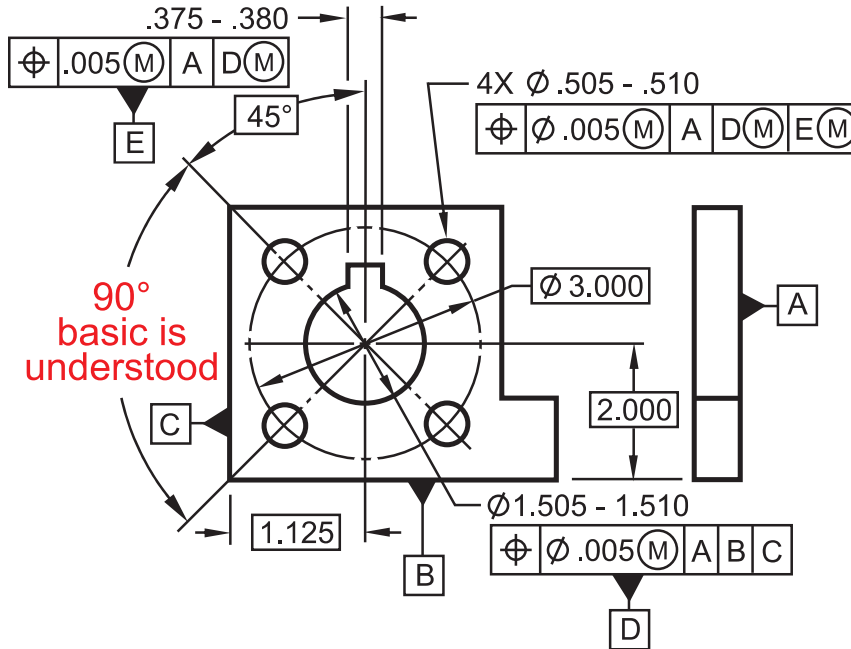

Figure 9
4.8 BASIC 90 Degree Angles – Two, three, or four features drawn at an implied increment of 90 degrees need not have an angular dimension unless it is needed to improve the interpretation of the drawing. See Figure 9.